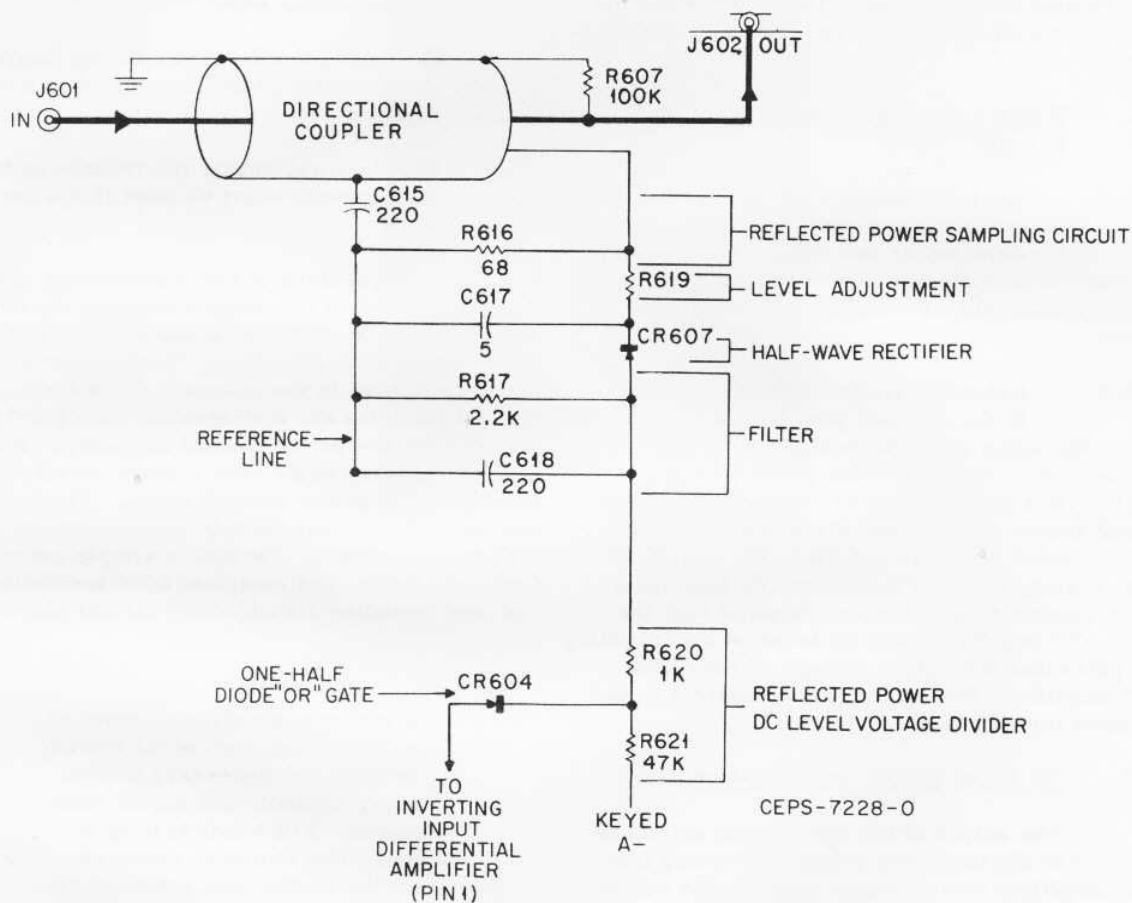

Figure 8.
3.3.2.2 Refer to Figure 8. The components of the reverse power detector circuit function the same as those in the forward power detector. The voltage divider develops a bias voltage that isn't quite enough to forward bias the diode that makes up one-half of a diode "OR" gate. When reflected power is detected, the resultant negative-going dc level lowers the dc bias level and the combination of the two forward bias the diode. The negative-going dc level on the inverting input increases the output voltage of the differential amplifier, decreasing the dc control output to protect the amplifier.